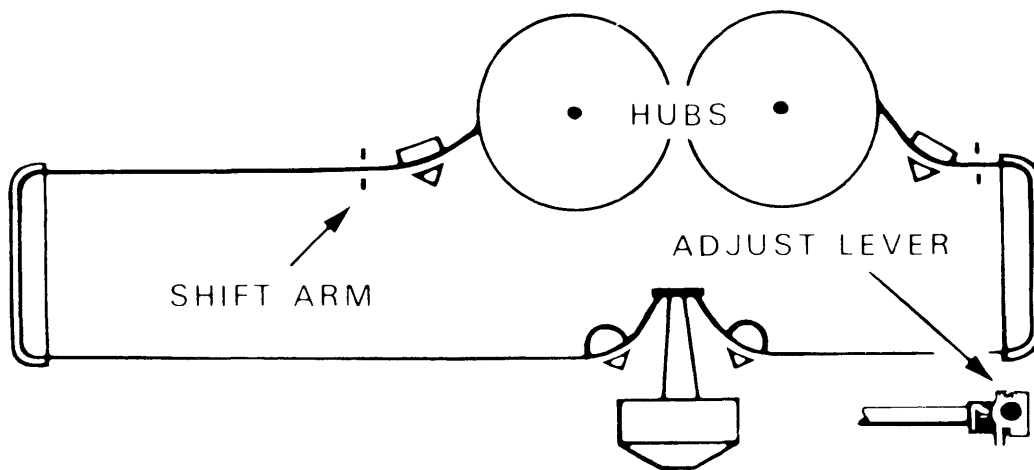

Figure 2-4. Ribbon Installation
Referring to Figure 2-4, proceed as follows:
- d. Feed the ribbon along the path as shown in Figure 2-4.